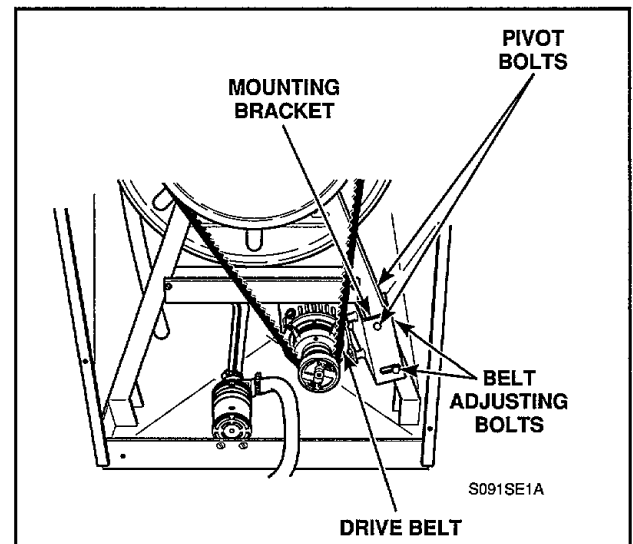

Figure 34
- Run belt off cylinder pulley, *Figure 34*.
- Remove two mounting bracket pivot bolts and lockwashers, *Figure 34*, and allow assembly to pivot down and rest on washer base. Belt adjusting bolts may have to be loosened slightly.
- Remove two belt adjusting bolts, washers and lockwashers, *Figure 34*, and lift assembly out of washer.
- Loosen hose clamps and remove hoses from pump, *Figure 34*.
- Remove two screws, nuts and lockwashers holding pump mounting bracket to washer base, *Figure 34*.
- Run belt off pulley, *Figure 34*.